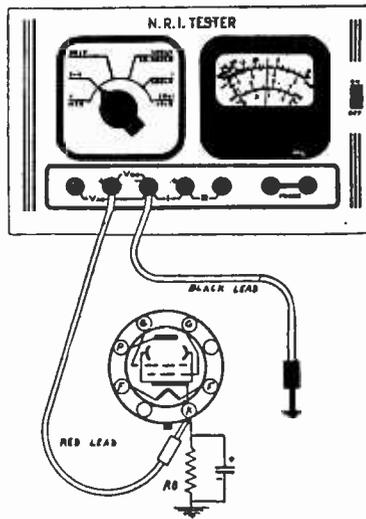

Fig. 3.
Another voltage measurement we can make is that of the bias for the 25L6 tube. The measurement can be made, as shown in Fig. 3, by holding the red probe on the #8 pin (K) of the 25L6 socket. (The black probe is still connected to the chassis.) The normal bias is measurable on the  $3 \times V$  range, but should  $R_8$  be open, the voltage across it will equal the plate voltage. Hence, you should first check with the  $30 \times V$  range, then go down to the  $3 \times V$  range after you are sure it won't be overloaded.